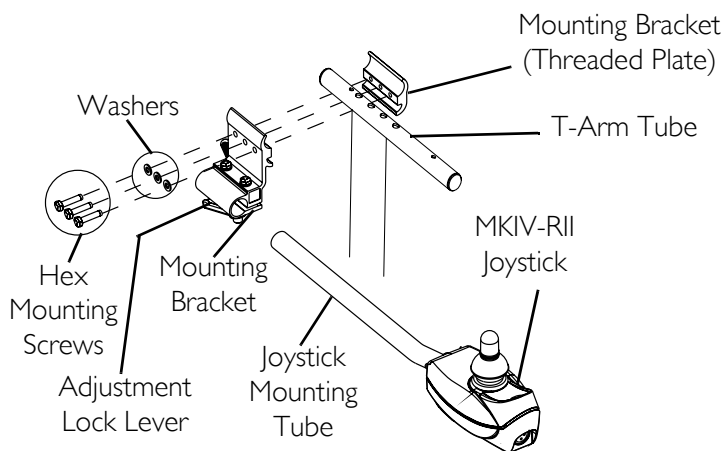

FIGURE 13.1 Repositioning MKIV Joystick
NOTE: For this procedure, refer to FIGURE 13.1.
4. Reposition mounting bracket on opposite arm tube ensuring the threaded plate of the mounting bracket is on the inside of the arm tube as shown in FIGURE 13.1.